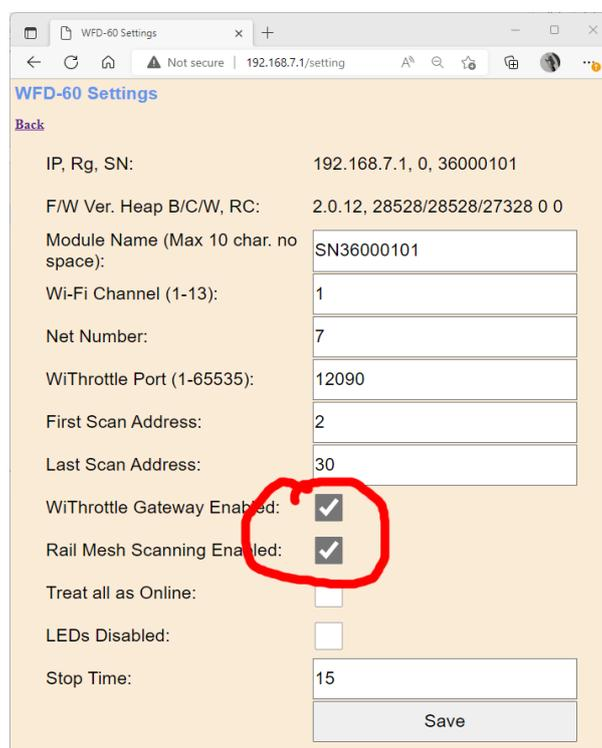

Figure 11 The Settings Page for the WFD-60. Make sure both the Circled Checkboxes are Checked
- (7) After leaving the factory or after a factory reset, the settings are configured to make it easy for you but it's not a bad idea to check so tap "Settings" and verify that they appear as in Figure 11.